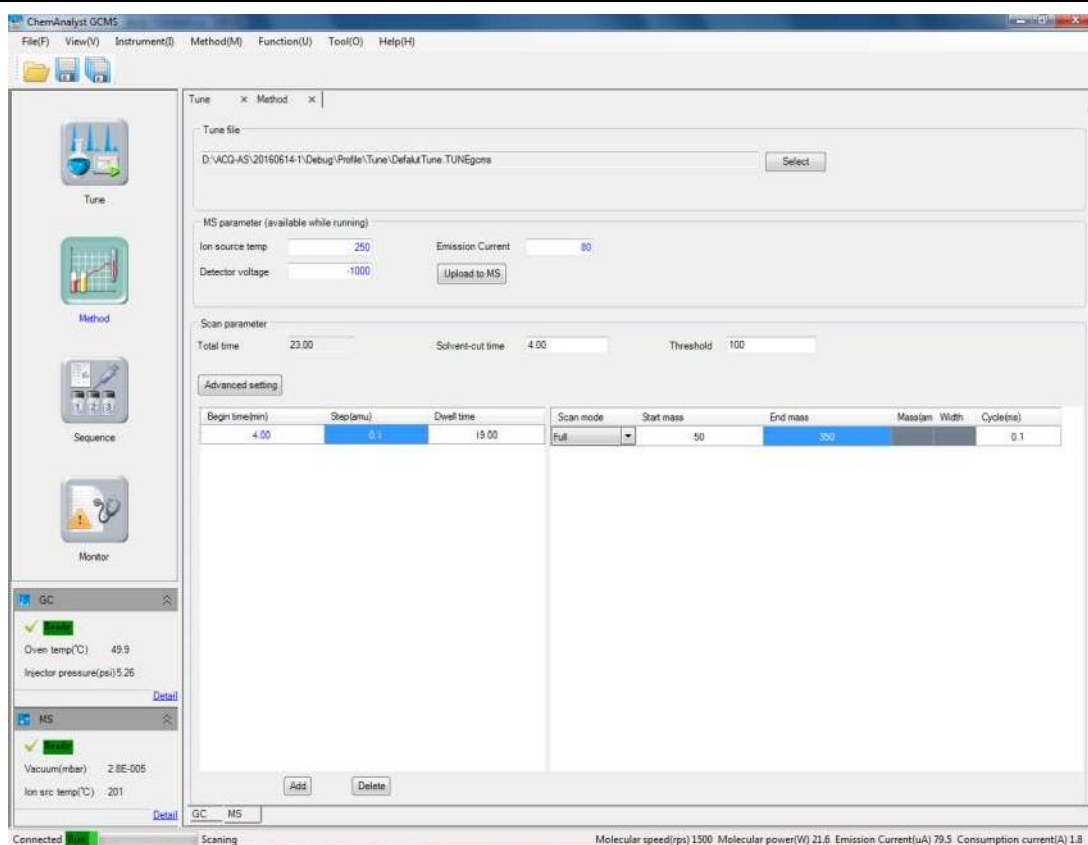

Figure 5-3 MS Settings Panel
- (1) Click [MS Settings] to go to MS settings page, as shown in Figure 5-3.
- (2) [Customize tuning file] to load the tuning file used by MS method.
- (3) Set the ion source temperature, emission current and detector voltage.
- (4) Only after a certain period time will the ion source temperature be stable, so set the ion source temperature before clicking [Download to MS] in order to let the ion source temperature reach the set value in advance.
- (5) The detector voltage could be the tuning voltage plus 300V, for example: if the detector voltage is -700V during tuning process, the detector voltage can be set to -1000V; and the specific voltage value should be determined based on the concentration and response value of the sample.
- (6) Set the Solvent Cut Time; the Solvent Cut Time refers to the time that the solvent of sample takes to flow to MS from GC. During the Solvent Cut Time MS would turn off the filament, RF power supply and detector HV to avoid the possible damage to MS parts caused by the change of vacuum degree resulted from the solvent into MS.
- (7) Set Scanning Duration.